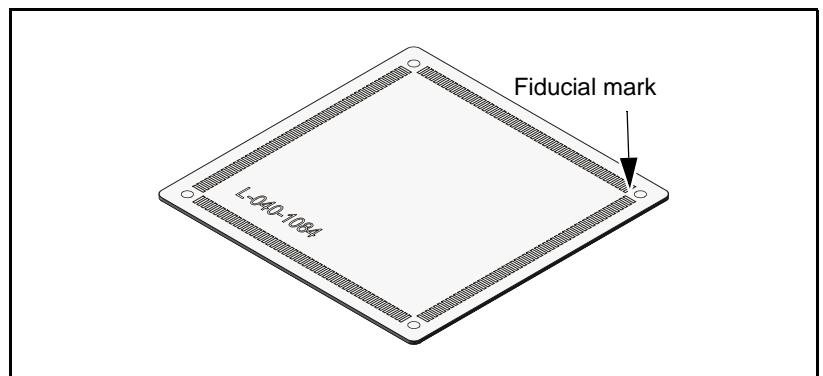

Figure 4-20. Calibration component (L-040-1084).
- Calibration component (L-040-1084), see Figure 4-20.